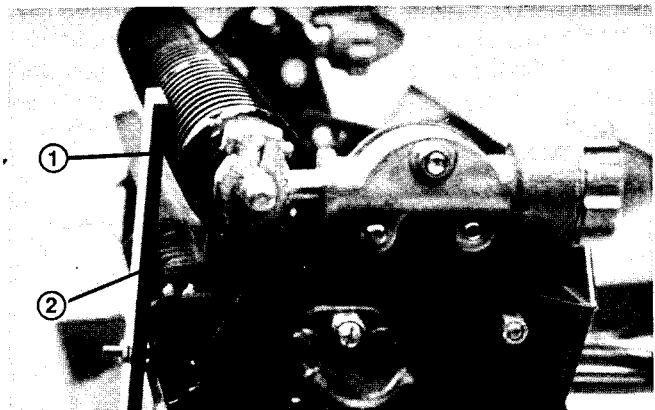

Figure 15
1. Make sure rear roller is in the desired height of cut position. Loosen the bolts anchoring the front roller shaft (Fig. 15). Rotate the shaft.
2. To adjust the aggressiveness of the comb teeth (Fig. 15), proceed as follows: